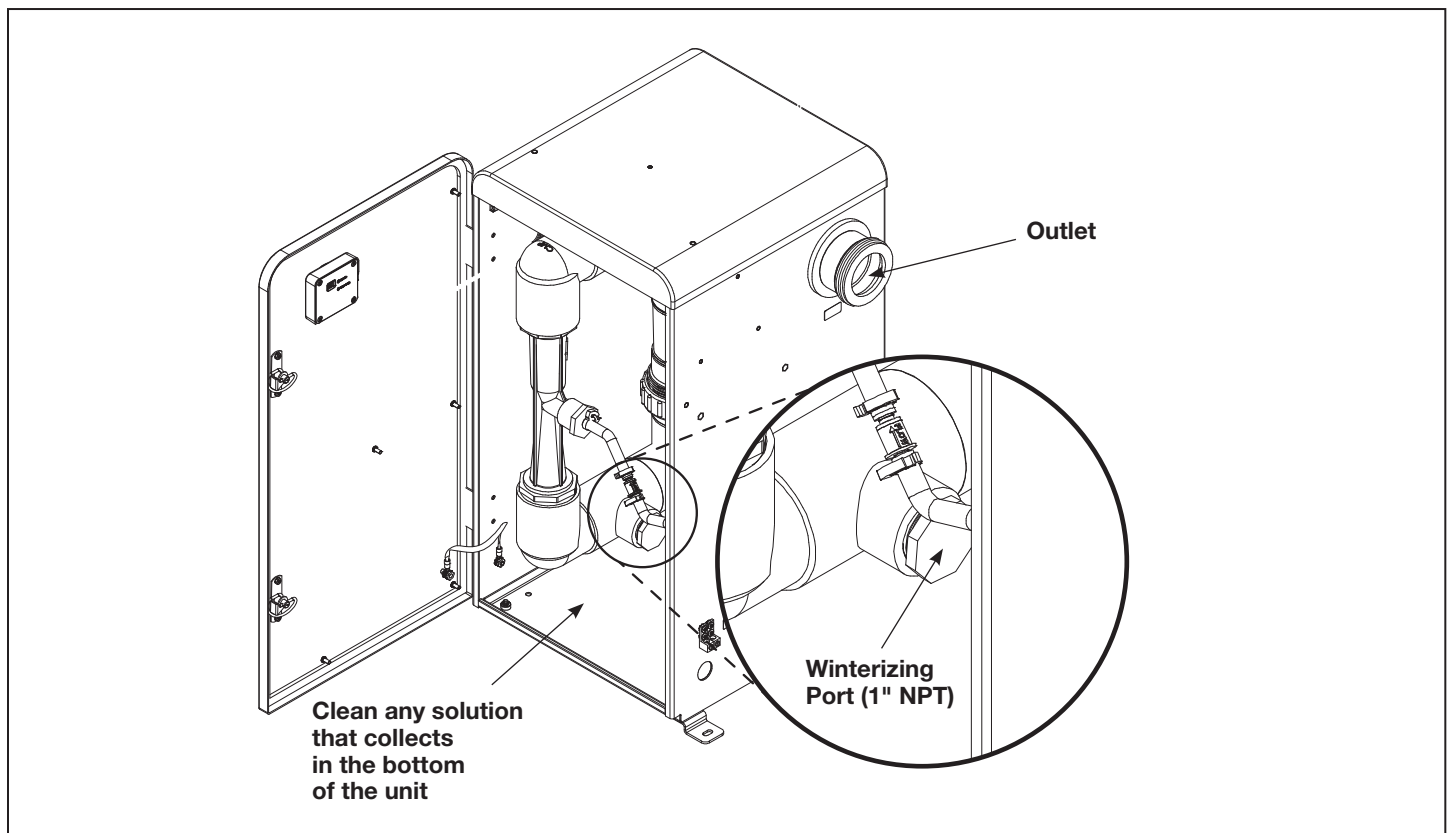

Figure 24. In-Place Quartz Tube Cleaning
2. Disconnect the union from the outlet port on the right side of the unit and remove the winterizing cap inside the unit. See Figure 24.